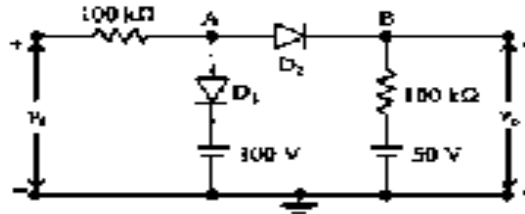

Figure 2
4. The input voltage  $V_i$  to the two level clipper shown in figure 2 varies linearly from 0 to 200 V. Sketch the output voltage  $V_o$  to the same time scale as the same input voltage. Assume ideal Diodes